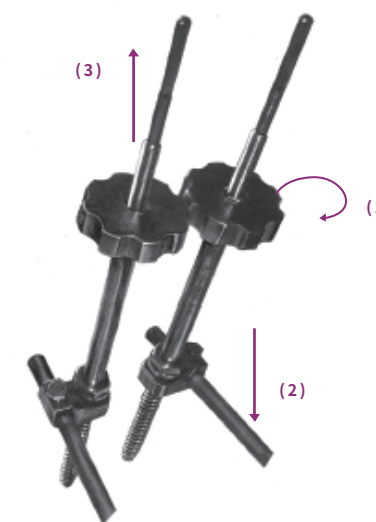

Fig.2b
-When the lifting is complete, remove the lifting nut, tighten the 11mm nut with a socket wrench, and remove the lifting sleeve (Fig. 2b).